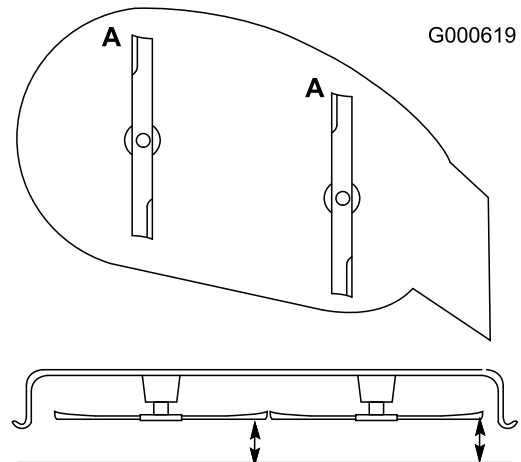

Figure 38
1. Rotate the blades until the ends face forward and backward (Figure 38). Measure from a level surface to the cutting edge, position **A**, of the blades (Figure 38). Note this dimension.